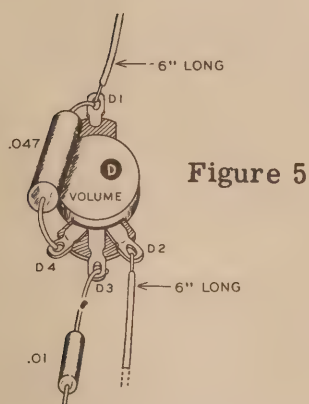

Figure 5
- (✓) 12. Figure 5 is a detail drawing of the VOLUME control D and its associated wiring. Slip one wire lead of a .047 μ fd molded condenser through terminal D1 and the other lead through terminal D4. Pull the leads through until the body of the condenser is held snugly against the cover of the control. Crimp the leads to the terminals and cut off the excess wire. Now solder D4 (S). Do not solder D1 yet (NS).